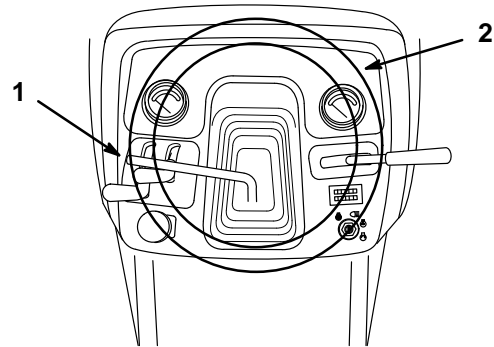

Figure 22
1. Lift the tilt lever to release the lock (Fig. 22).